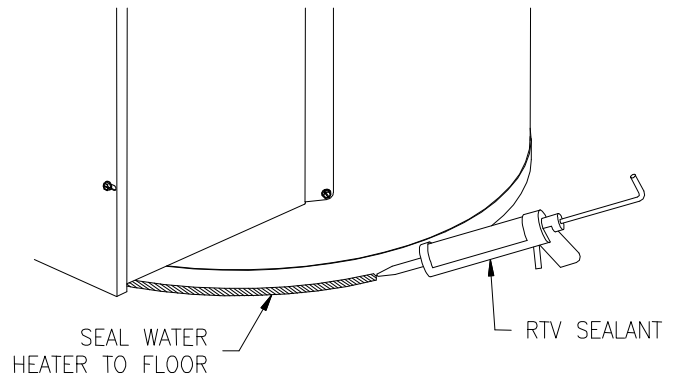

Figure 2
2. Seal water heater to floor using RTV sealant. Be sure to seal water heater completely to floor without leaving voids (see **Figure 2**).